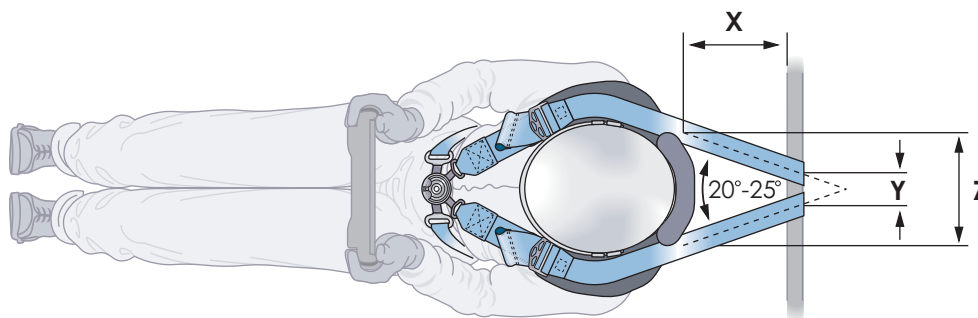

Figure 2. Position of shoulder belt anchorage points to achieve desired belt angle (plan view)
2.3 The shoulder strap anchorage points on the car shall be symmetrical about the centre line of the driver's seat. When viewed from above, the angle between the belts shall be approximately 20°-25° as shown in Figure 2.
- dimension Z (mm) = width of the HANS® collar, as shown in Figures 2 and 3
- dimension X (mm) = distance from the rear edge of the HANS®-belt-bearing-surface to the car attachment point (mm) as shown in Figure 2
- dimension Y (mm) = separation of the centres of the two shoulder straps at the car attachment points (mm) as shown in Figure 2